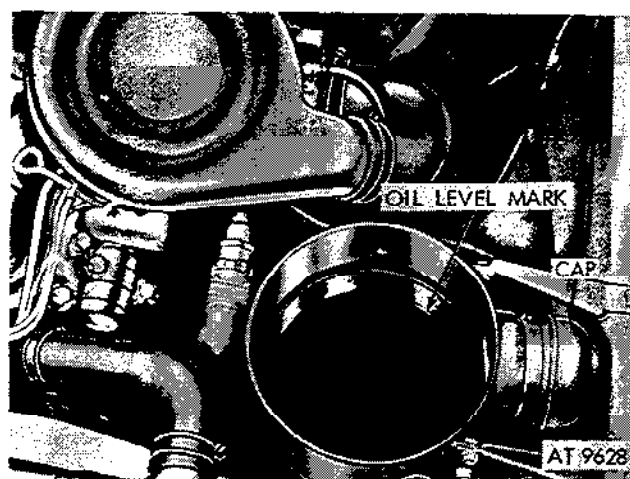

Figure 2-87. Fill to oil level mark.
(4) Place oil cup in body and fill to level mark with fresh engine oil (fig. 2-87). Refer to LO 9-2320-218-12). Install air cleaner element and secure air cleaner cover.